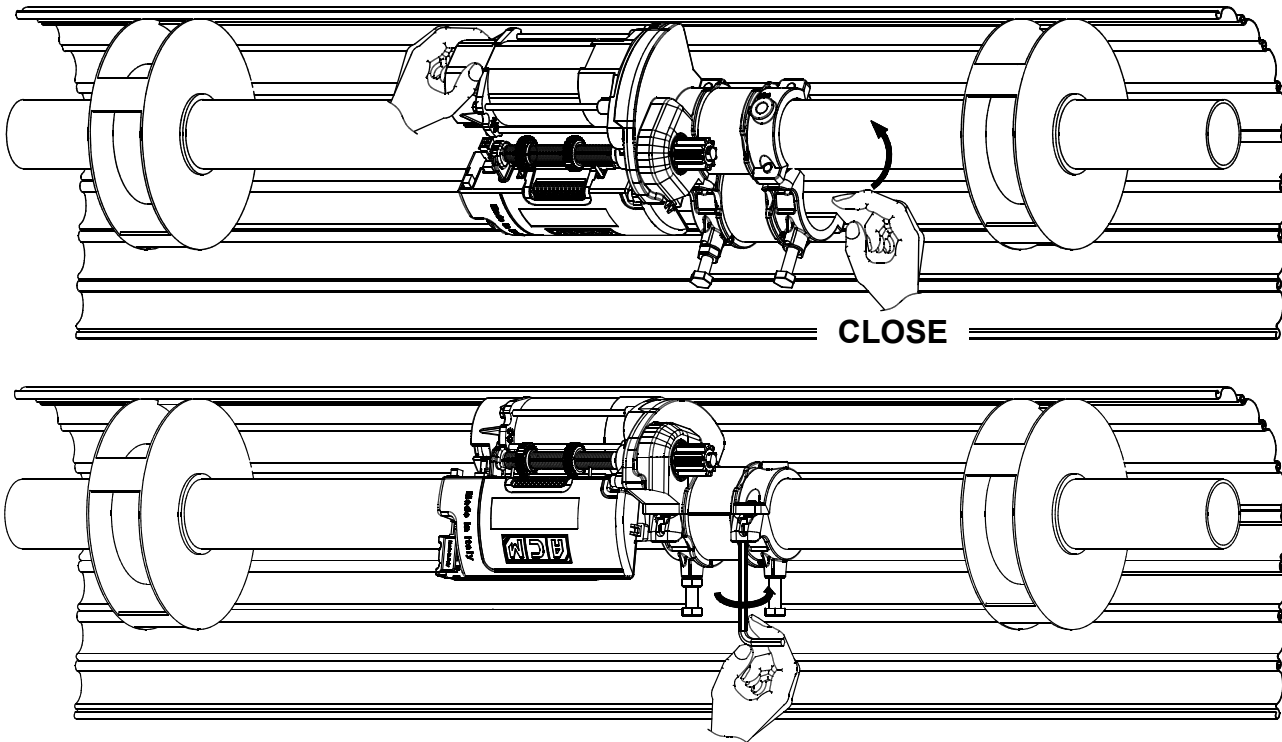

Fig.11
- 5) How to use the patented system for the quick assembly of UNITITAN HR FM: align the two rolling bands (P) with the relative supports (G1/G2) and unscrew the two screws (H), see figure 3. Unscrew the two screws from the hinge side of the body up to the max height indicated in figure 4. Open the hinged body as shown in figure 5 and then proceed to mount the gear box unit on the shutter axis following the instructions in figure 11 and 12 for a left or right installation.
- Other motors: Carefully remove the plastic band with rolls (F) avoiding heavy folds that would cause the spillage of the rolls. Separate the two elements of the gearmotor (G) unscrewing the four M8 screws (H).